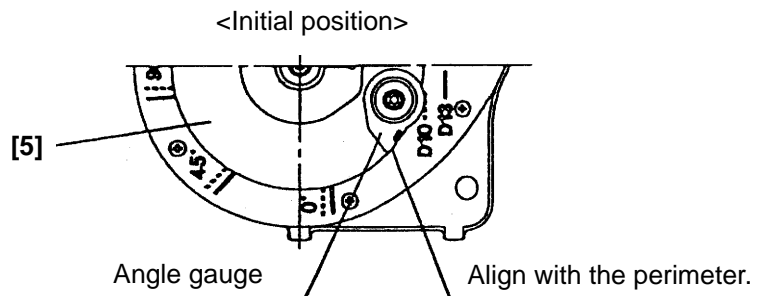

Fig. 27
- (1) Check the accuracy with an angle gauge (Figs. 27, 28 and 29).
- 1) Adhere an angle gauge to the Turn Table [5] (Fig. 27).